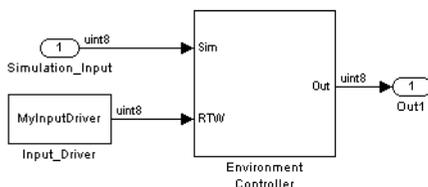

Figure 10-8: Subsystem Implements Pass-Through Logic with Environment Controller
You can implement a pass-through driver by creating a subsystem like that shown in Figure 10-8. The subsystem contains an S-function device driver block (for an input device such as an ADC), and an Environment Controller block that implements pass-through behavior.
- If the driver subsystem is built with the right-click **Build Subsystem...** menu option, storage for inputs and outputs to and from the subsystem is declared in the containing model's external input (rtU) and output (rtY) structures. For example, in the subsystem shown in Figure 10-8, storage would be allocated for the port labeled Simulation_Input.